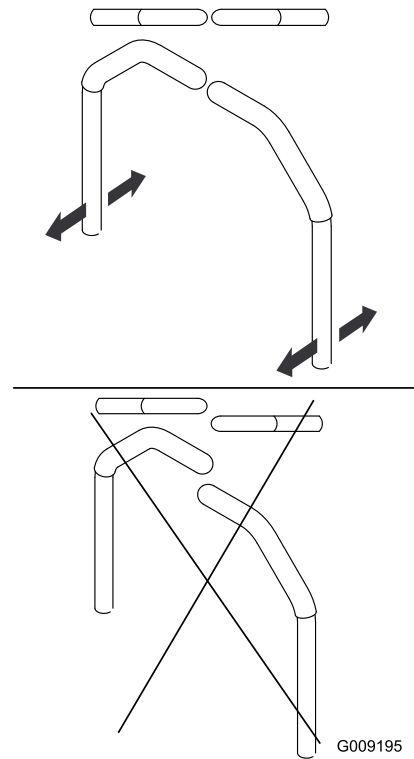

Figure 56
7. Align the levers in the front-to-rear position by bringing the levers together to the NEUTRAL position, and slide them until they are aligned, then tighten the bolts (Figure 56).